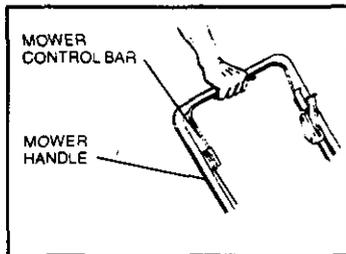

Figure 3
- A. Depress mower control bar (see Figure 3) against mower handle and hold it in this position.
- a) **RECOIL STARTERS:** Grasp starter handle (figure 3) and pull rope out slowly until you feel drag. Let rope rewind slowly. Pull rope with rapid, full arm stroke. Return rope slowly to original position.